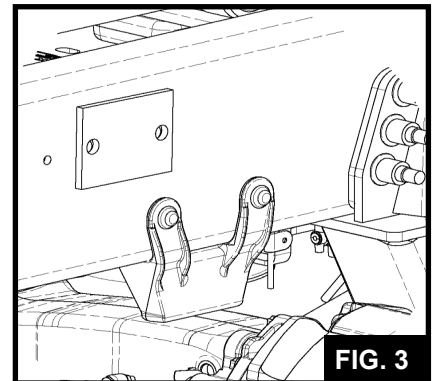

FIG. 3
- 6.2 Dump air out of the suspension air springs such that the forward and rear axle stops come into contact with the forward and rear axles (See FIG. 3).